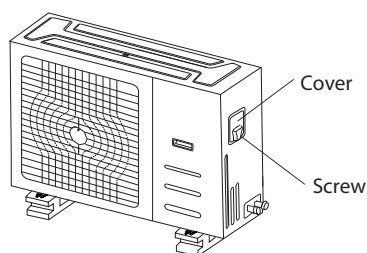

Fig. 8.1
- Remove the electric cover of the outdoor unit. If there is no cover on the outdoor unit, take off the bolts from the maintenance board and remove the protection board. (See Fig. 8.1 and 8.2).